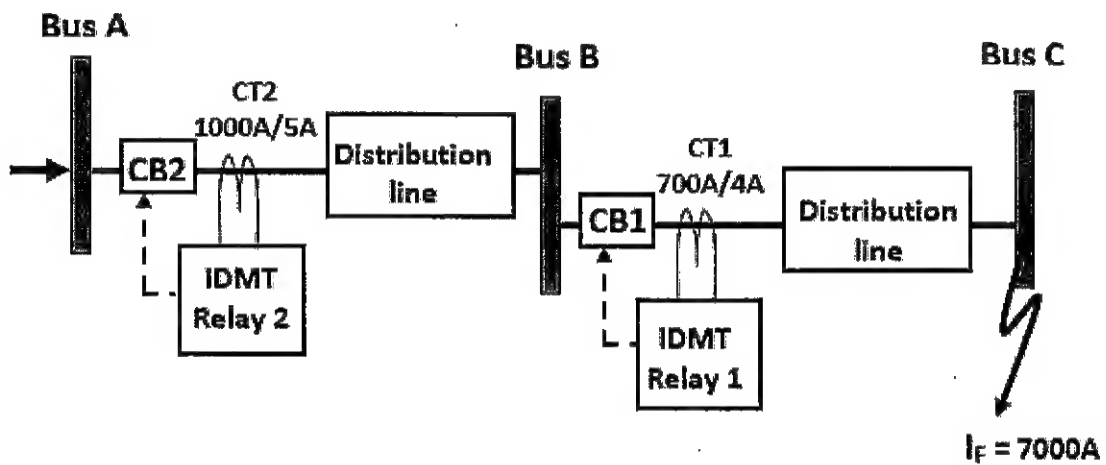

Figure Q4
An 11kV, single phase system is protected by a scheme using IDMT relays as shown in Figure Q4. The circuit breakers CB1 and CB2 are associated with IDMT relays 1 and 2 through the Current Transformers (CT) with current ratios as mentioned in the figure. If maximum fault current of 7000A is occurring at Bus C, protection scheme must clear it in 2.25s. Using relay characteristic as shown in Table Q4, solve the following: